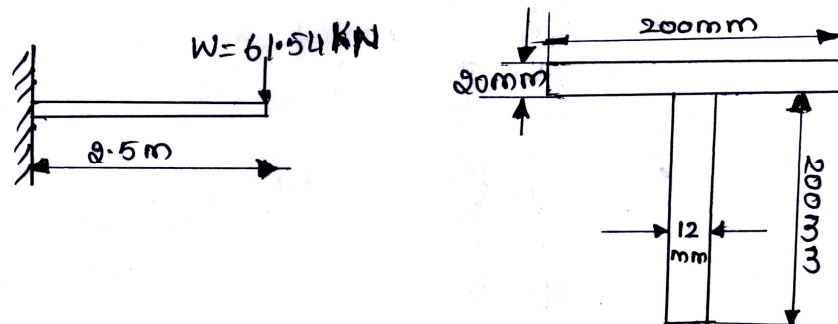

Fig Q5(c)
- c. A cast iron beam T section has a length of 2.5m and is subjected to a point load of 61.54kN as shown in Fig Q5(c). Determine the maximum tensile and maximum compressive stress. Draw the bending stress distribution across the cross section of the beam. (12 Marks)